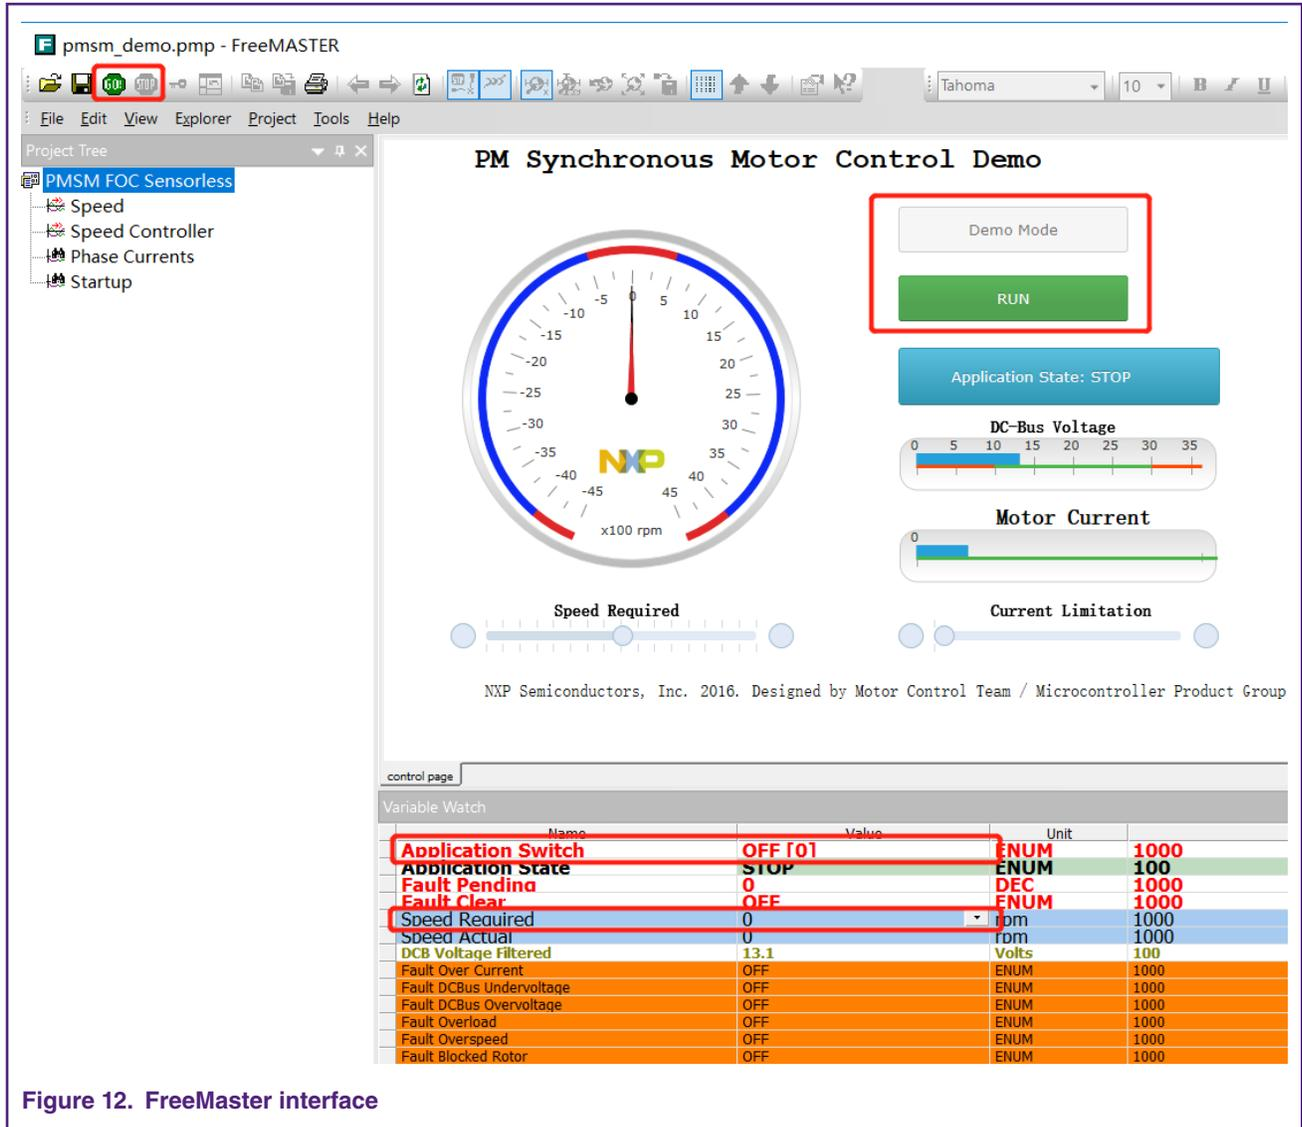

Figure 12. FreeMaster interface
- Figure 12 shows the FreeMaster interface, Set "Application Switch" to "ON" by value set or click "RUN" button.